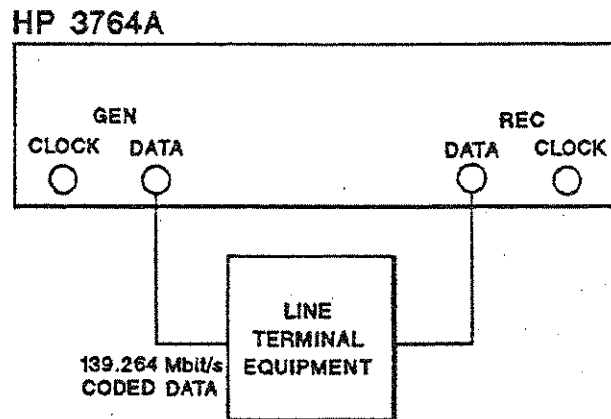

Figure 2-1. Measurement of Binary Errors on 139.264 Mbit/s Coded Data
3. Connect up the equipment as shown in Figure 2-1.